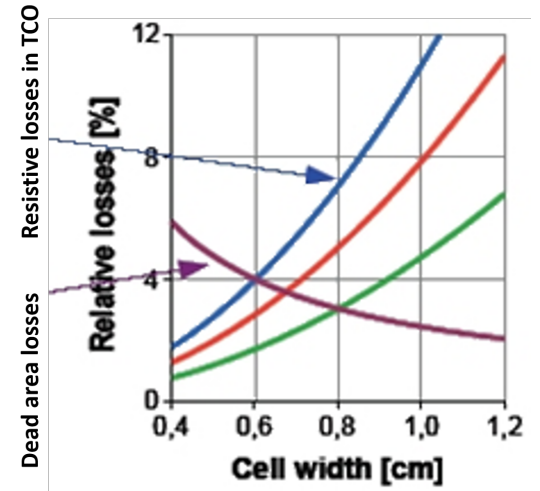

Figure 3: : Larger cells have higher serial resistances in the TCO, but less dead material.
- b) Two opposite effects lead to an optimum width w for given Δw as can be seen in figure 3: On one hand, the laser scribe region Δw is 'dead' material, i.e. no current is produced there. Thus, the wider the cell is (large width w), the lower the relative losses due to the dead area Δw . On the other hand, too large stripes (large width w) lead to a drop of efficiency due to serial resistivity of the TCO.